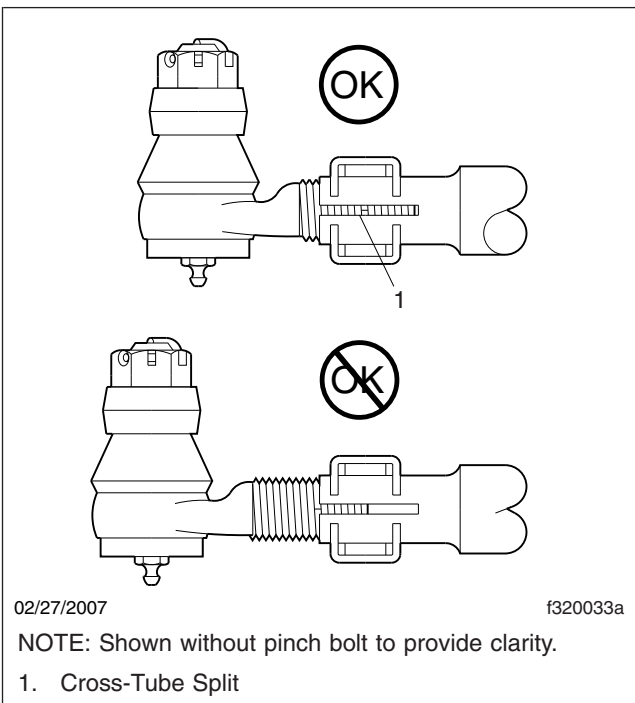

Fig. 7, Tie-Rod End Adjustment
- The threaded portion of the tie-rod end assembly must be inserted all the way into the cross-tube split for adequate clamping. See **Fig. 7**. Replace the components if this cannot be done. For instructions, refer to **Group 33** of the *Business Class® M2 Workshop Manual*.